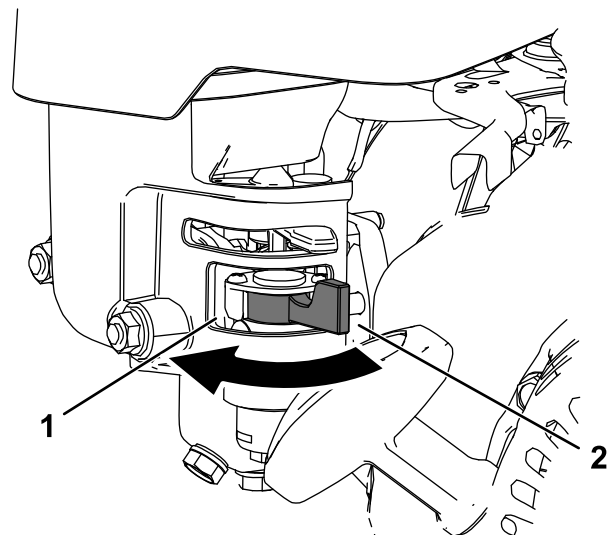

Figure 18
- To open the fuel valve, turn the fuel-shutoff lever toward the recoil starter handle (Figure 18).
- To shut the fuel valve, turn the fuel-shutoff lever away from the recoil starter handle (Figure 18).